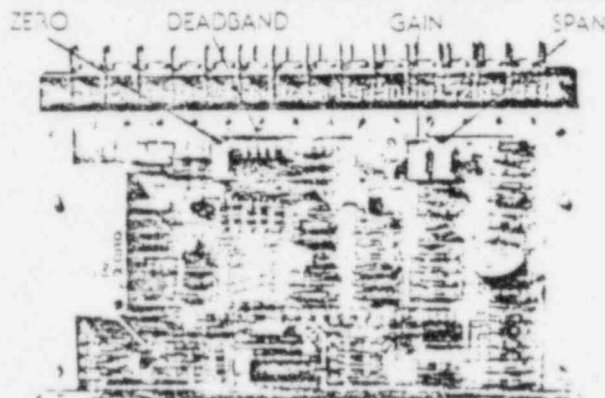

Figure 4—Comparator Board—Modutronic 30 & 40—SMC
A. Presetting (See figure 4, photo of comparator for location of controls)